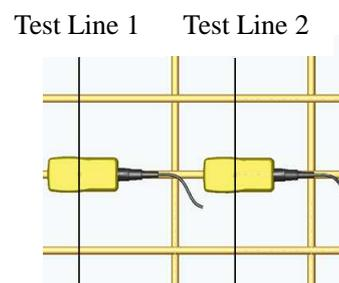

Fig. 2.8 Rebar Distribution
2) Rebar Direction (Fig. 2.8, video)
- ▶ Detect two rebars location along two parallel measuring lines, the connected line between the two locations is then the direction of the rebar. (See fig. 2.8)